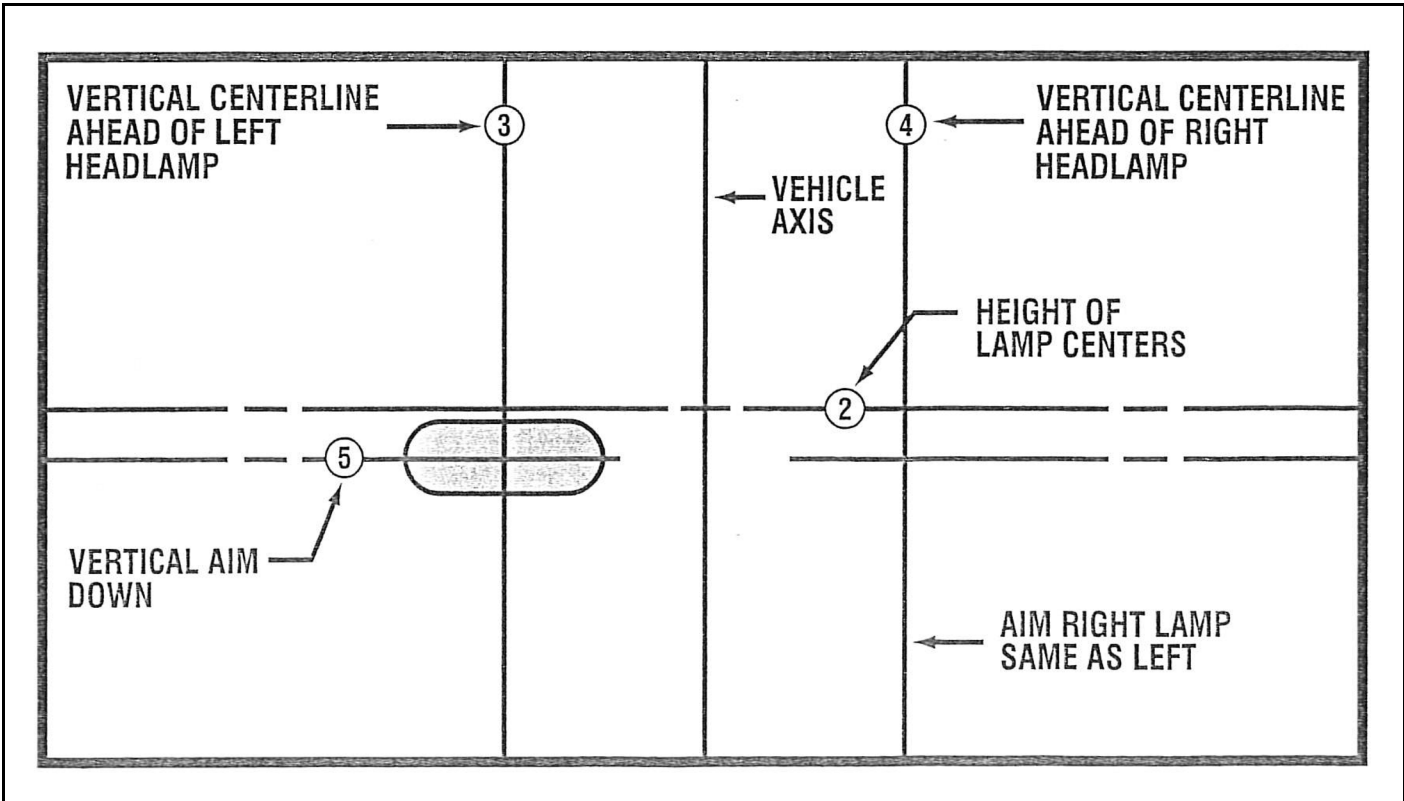

Figure 2-10-High-Intensity Zone (Shaded Area of a Properly Aimed Upper Beam on the Aiming Screen 25 ft (7.6 m) in Front of Vehicle)
1. Activate the snow plow lamp HIGH beams so that they illuminate toward the wall. (See Figure 2-10.)